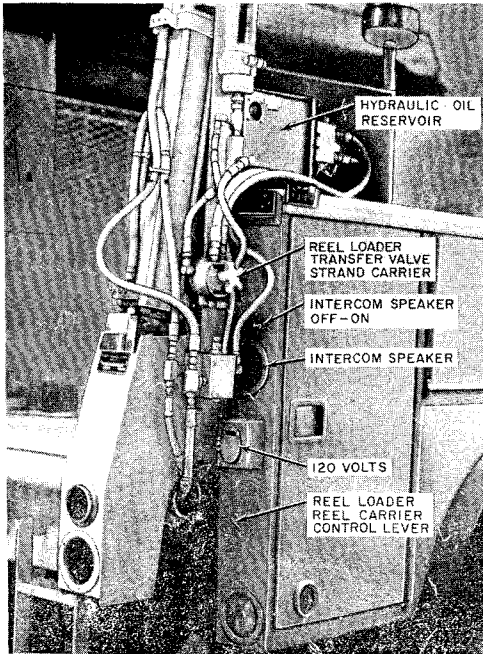

Fig. 7—Controls for Reel Loader and Reel Carrier
2.09 Controls for the reel loader and reel carrier are located on the outside of the left rear panel of the truck. The controls are shown in Fig. 7.